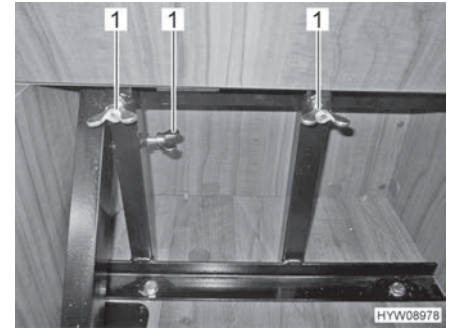

Fig. 20 Secure the attachable seat with wing nuts
- Secure the attachable seat with wing nuts (Fig. 20,1).